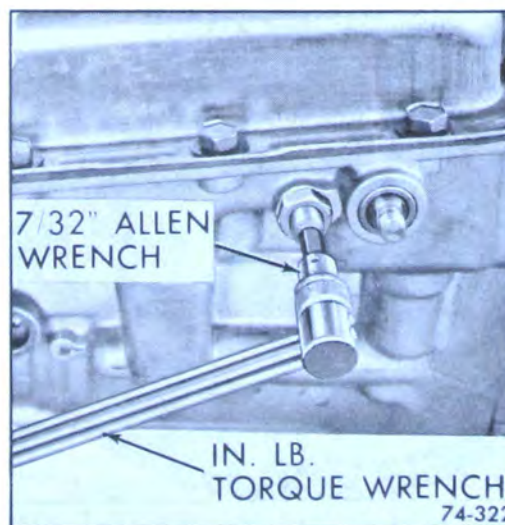

Figure 74-322
1. Remove adjusting screw cap. Adjust low band by first tightening adjusting screw to 40 lb. in. torque. See Figure 74-322.